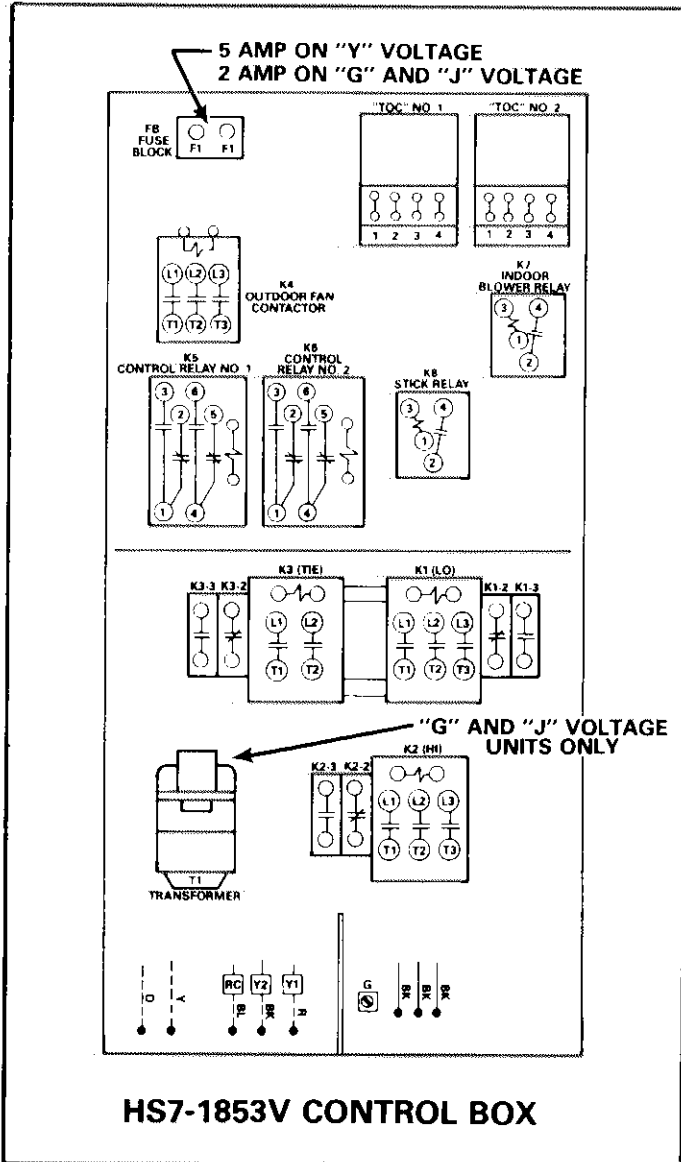

FIGURE 6
**A - Control Box (Figures 6 & 7)**